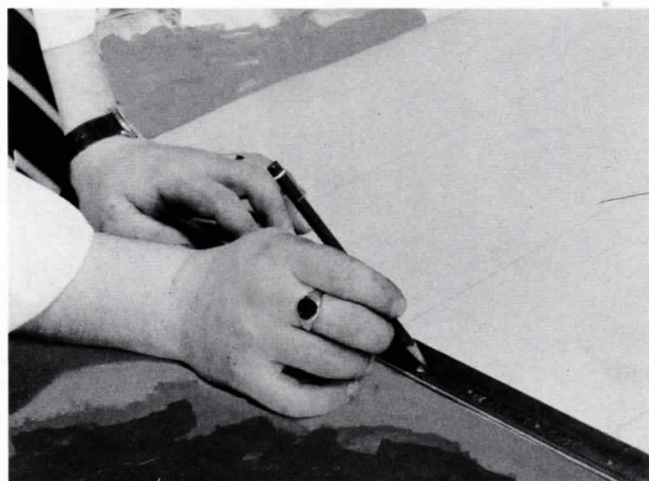

Figure 31
1. Check that the grain of the blanket, as indicated by the colored thread or arrow, runs along the short dimension around the cylinder. See Figure 31.